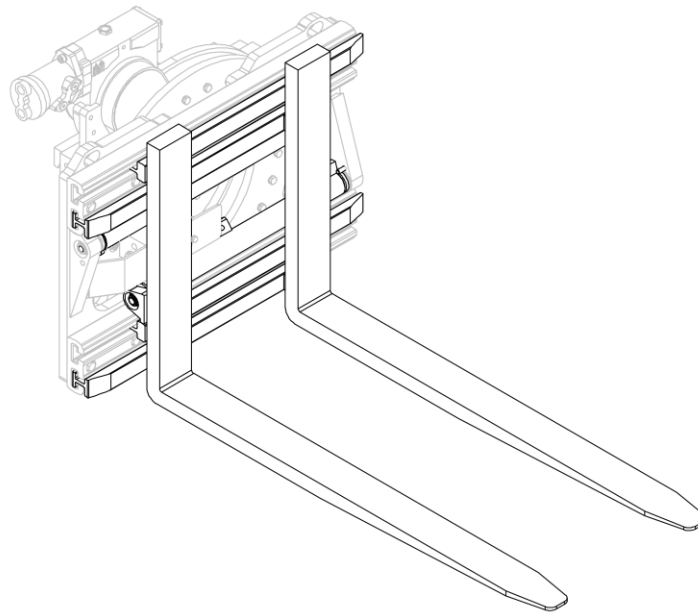
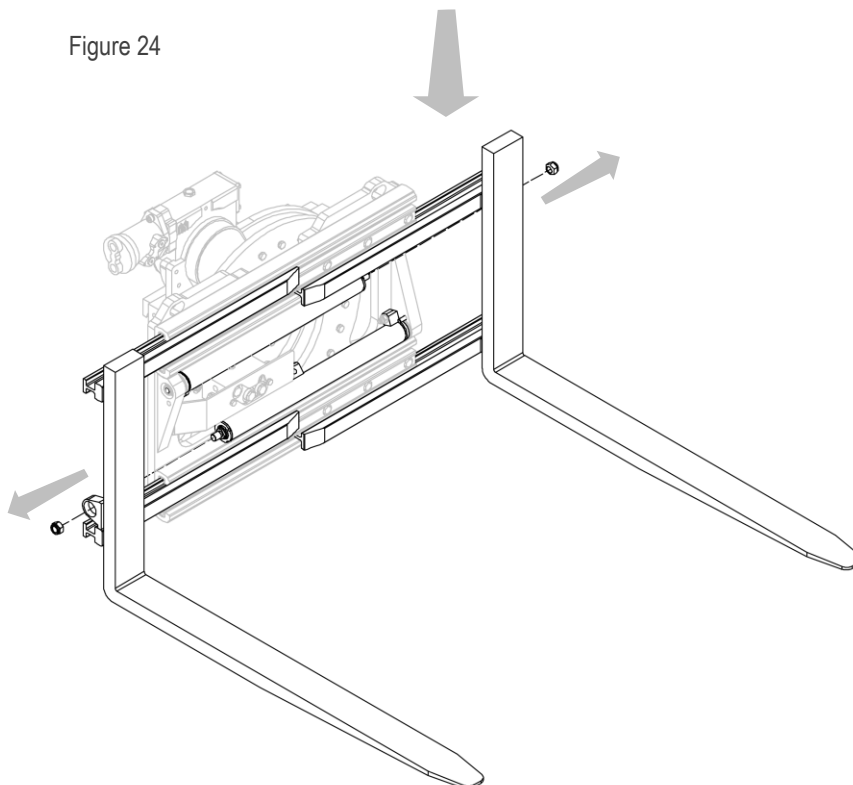

Figure 24
Figure 25
2. Remove the forks after unscrewing the nuts securing them to the cylinders (see *Figure 24* and *Figure 25*).